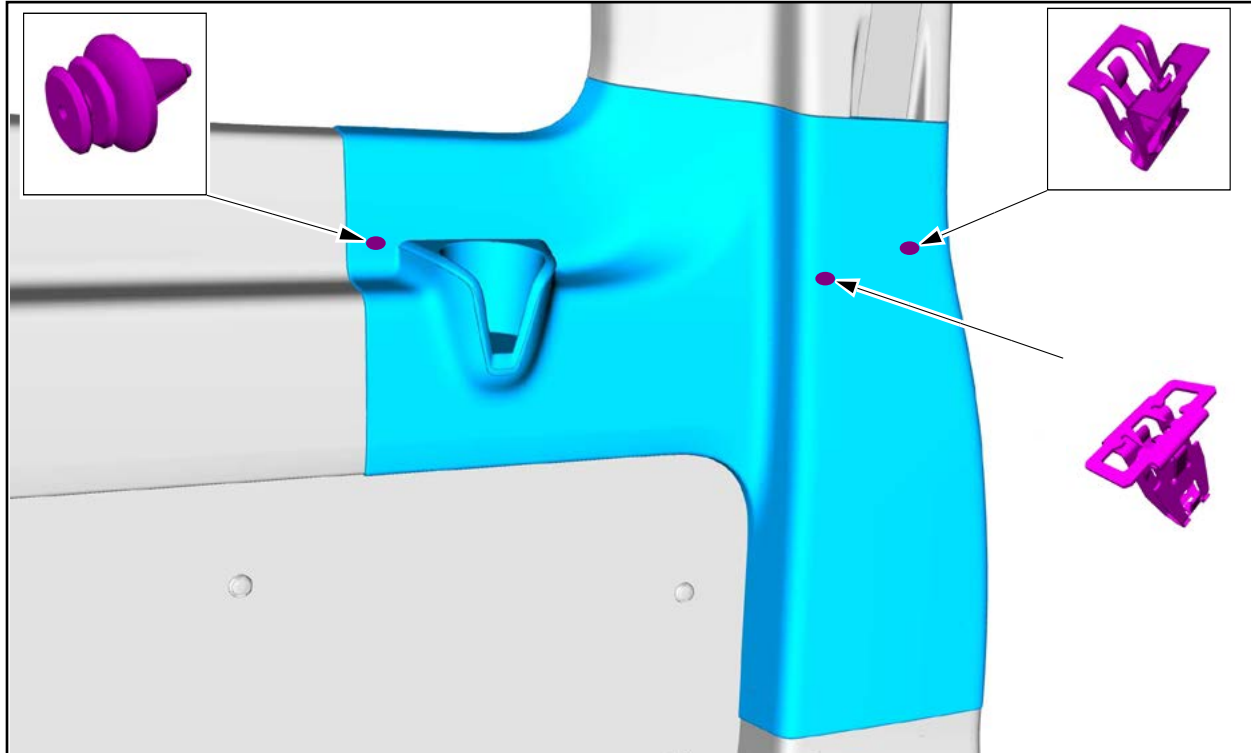

FIGURE 1
1. Release the clips and remove the LH side middle B-pillar trim panel. See Figure 1.
- Install the LH side middle B-pillar trim panel. See Figure 1.